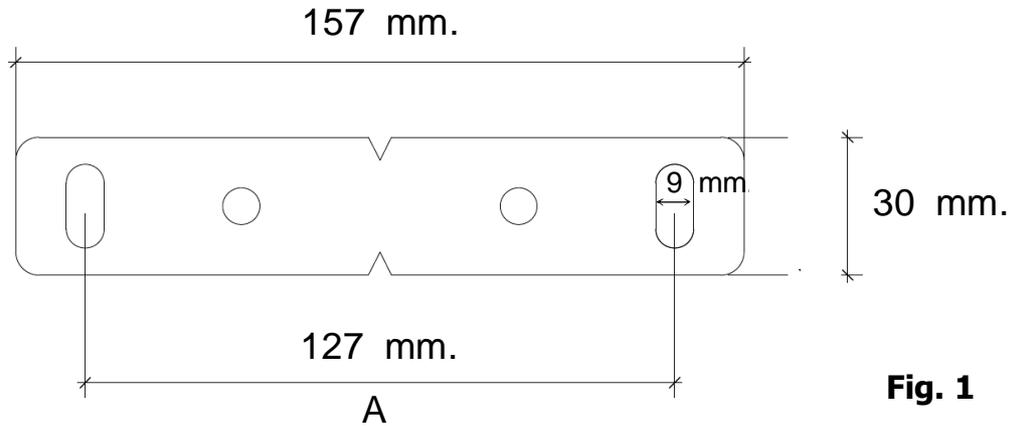
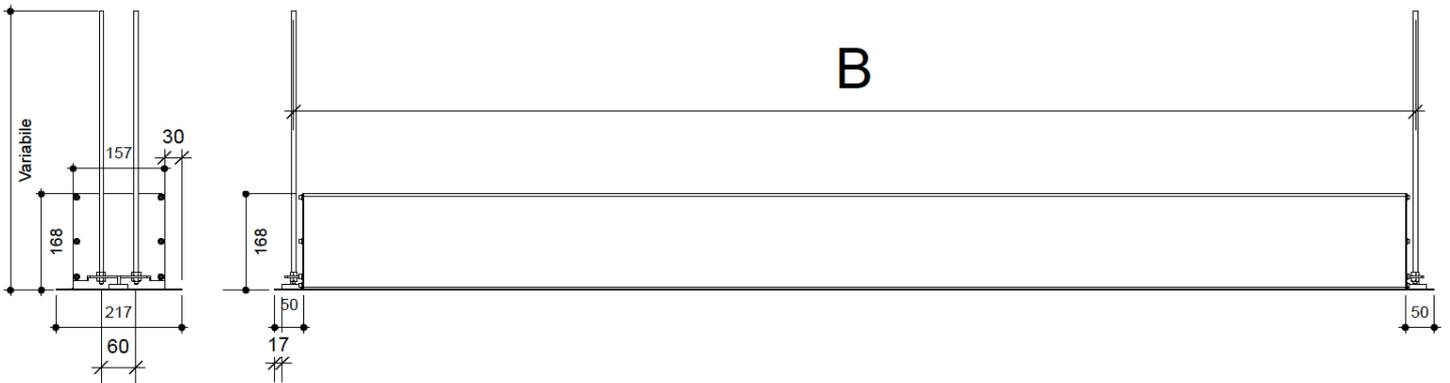
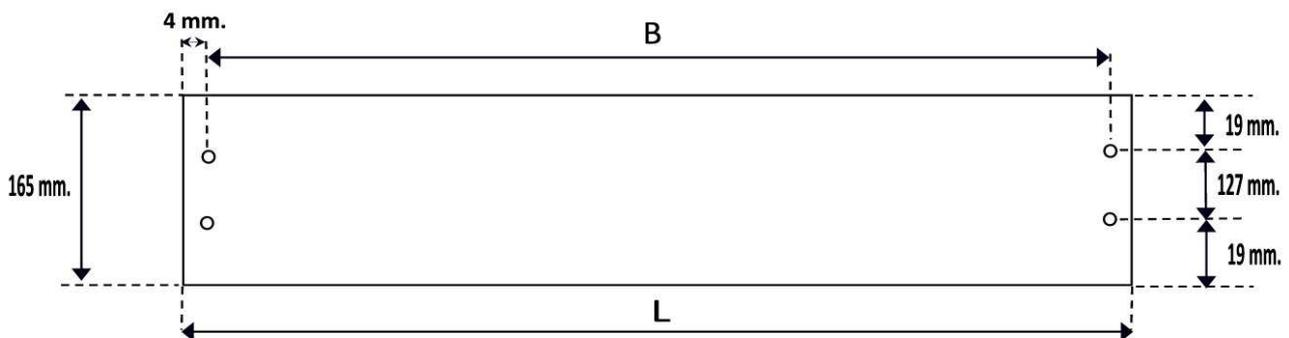

Fig. 1
Fig. 2
Fig. 6
- 1. A** Drill two holes (suitable for wall plugs and screws NOT included in the packaging) in the concrete ceiling at a distance of 127 mm for each ceiling bracket (DISTANCE A – Fig. 1) whereas for the distance of the holes between each bracket, follow the drawing and the scheme below (DISTANCE B – Fig. 2):
- 1. B** Cut the hole in your false ceiling following the indications in Fig. 6 (distance L) and drill into the concrete ceiling two holes at a distance of 127 mm. in order to fix the ceiling mounting brackets (see DISTANCE A - Fig. 1), whereas for the distance of the holes between each bracket, follow the drawing and the scheme below (DISTANCE B) in Fig. 6.